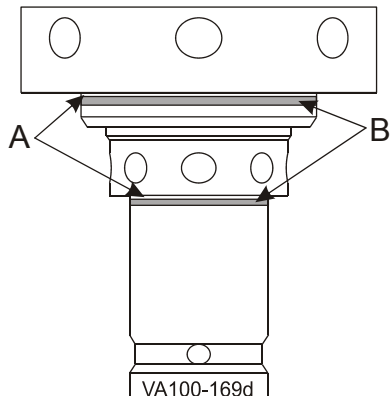

Figure 38 - Assembly
3. Screw the upper stem in until the scribe line (Figure 38, item A) within the etch mark adjustment zone (item B) aligns with the bottom of the adjustment sleeve. This is the factory-set lower seat clean position. See "Seat Cleaning Adjustment" on page 25 for instructions on modifying the seat clean movement.